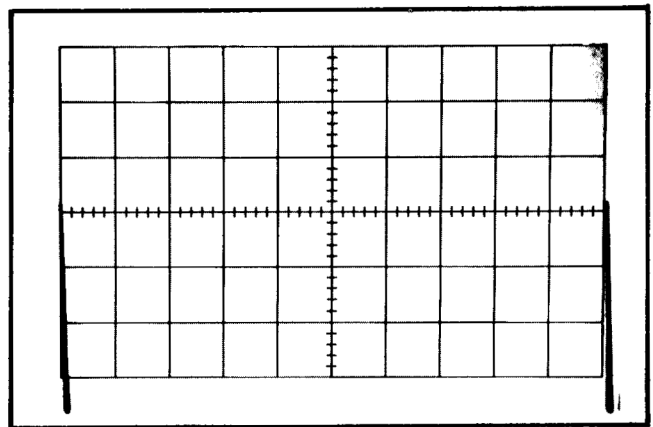

Fig. 5-20. Typical CRT display when checking delayed-sweep accuracy.
- b. CHECK—Using the A TIME/DIV switch, B TIME/DIV switch and time-mark generator settings given in Table 5-4, check delayed sweep accuracy within the given tolerance. First set the DELAY-TIME MULTIPLIER dial to 1.00 and rotate the dial until the sweep starts at the top of the second marker (see Fig. 5-20). Note the dial reading and then set the dial to 9.00 and rotate slightly until the sweep starts at the top of the tenth marker. DELAY-TIME MULTIPLIER dial setting must be 8.00 divisions higher, + or – the allowable error given in Table 5-4.